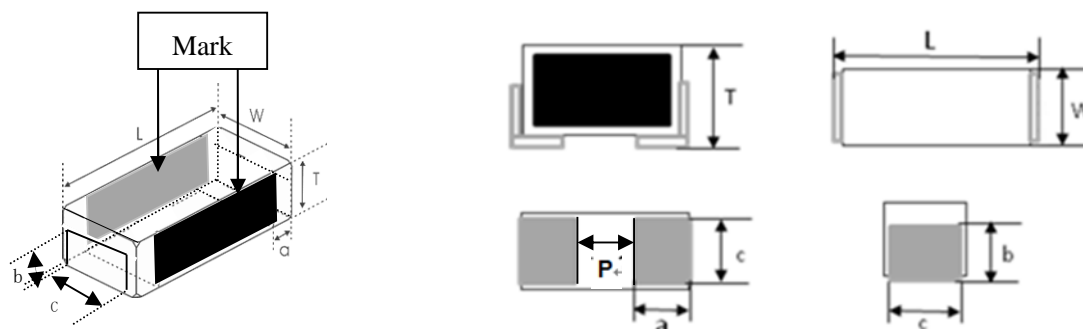

Fig. 4-1
- Dimensions and recommended PCB pattern for reflow soldering: See **Fig.4-1**, **Fig.4-2** and **Table 4-1**.